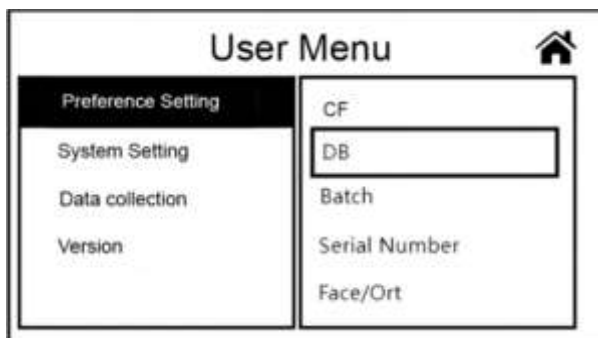
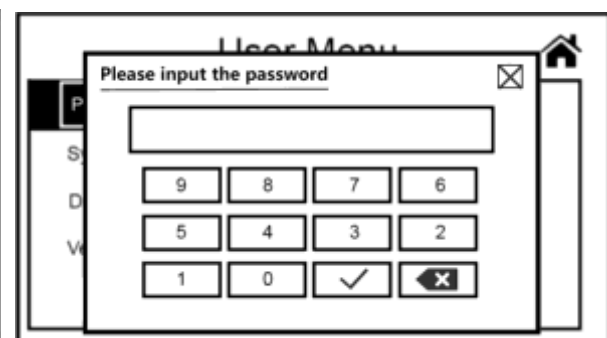

Figure 54
Figure 55
2) As in Figure 54, touch the second “DB” button on the display. Enter into the DB Setting interface, need to input the password 0508 first, as in Figure 55.